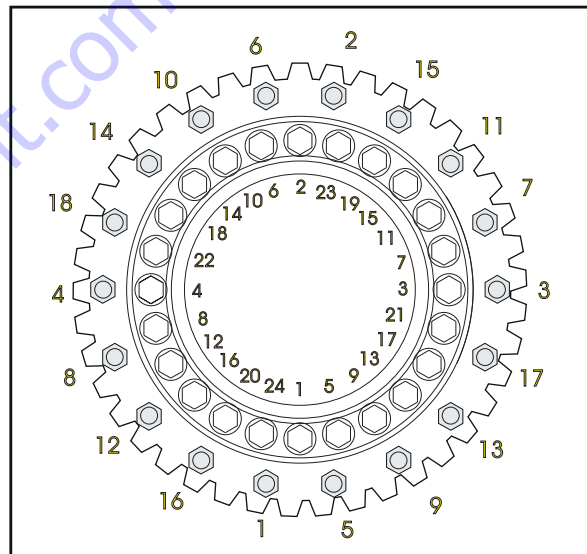

Figure 2-21. Swing Bearing Torquing Sequence
2. Line up high spot (blue) of bearing with center tooth of worm gear. Set backlash to 0.20 - 0.25 mm (0.008 - 0.010 inch). Tighten capscrews as shown in Figure 2-21., Swing Bearing Torquing Sequence.
7. Following the torque sequence diagram shown in Figure 2-21., Swing Bearing Torquing Sequence, tighten the bolts to an initial torque of 237 Nm (175 ft. lbs.). Then following the same sequence, tighten to a final torque of 326 Nm (240 ft. lbs.).
12. Following the torque sequence shown in Figure 2-21., Swing Bearing Torquing Sequence, tighten the bolts to an initial torque of 175 ft. lbs. (237 Nm). Then following the same sequence, tighten the bolts to 240 ft. lbs (326 Nm).